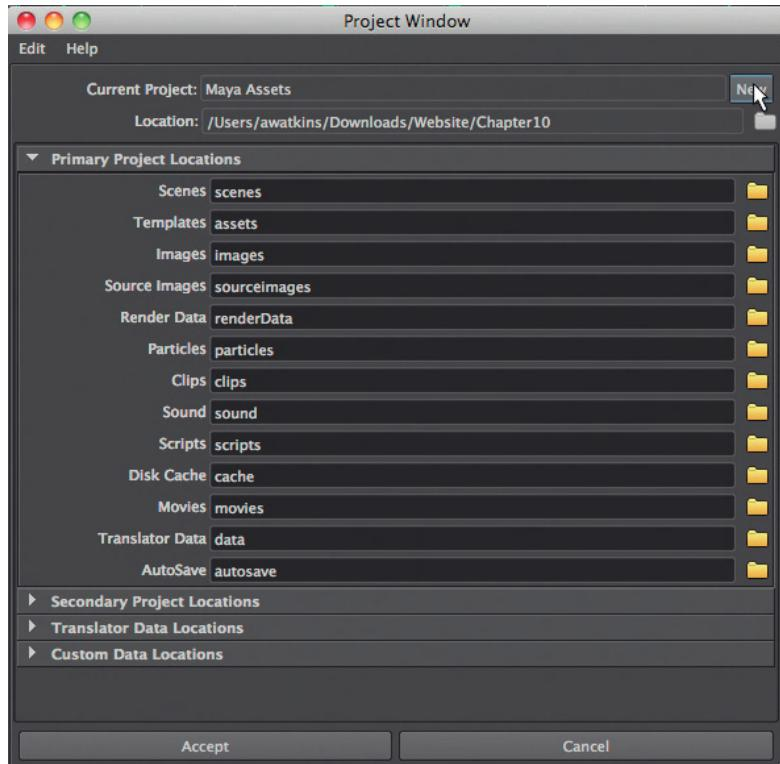

FIG. 2.27 The Project Window.
Step 1: Choose File > Project Window (Fig. 2.27).